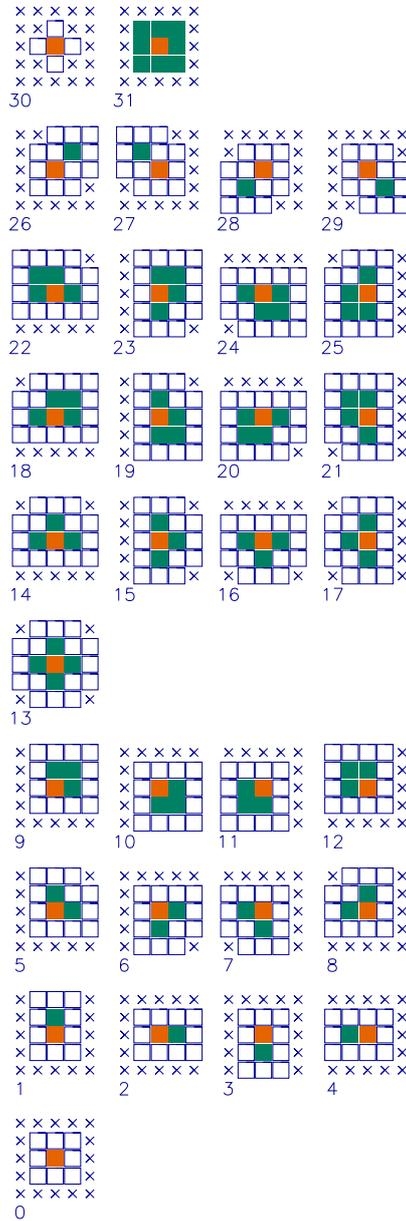
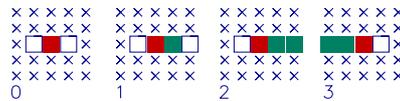

Figure 1: List of EPIC-MOS patterns (IMAGING mode)
Figure 2: List of EPIC-MOS patterns (TIMING mode)
analysis (Fig. 1) as on-board, with the difference that it is performed with the EDU threshold set at the EMDH lower threshold (everything below that was lost) and the energies  $E_3$  and  $E_4$  cannot be recovered.
In Timing mode this pattern analysis is used to reject events classified as singles or bipixels by the 1-D pattern analysis on board (Fig. 2), but which are actually part of a large track from a cosmic-ray in the framestore area. A 2-D pattern analysis, similar to that in Imaging mode (Fig. 1), is run locally around all events with `PATTERN` 0 or 1 and the event is accepted only if it would have passed the Imaging pattern analysis, with any `PATTERN` less than 30. Otherwise it is flagged as `COSMIC_RAY`. No such cosmic-ray rejection is performed if `analysepatterns` is set to False. This may not be applied in Compressed Timing mode because most events do not have a valid `RAWX` and `PATTERN` in that mode.
If Timing mode was configured on-board with `EDUMODE=3` and Imaging patterns (non-standard), then no additional pattern analysis is carried out within `emevents`. Instead the `PATTERN` values are converted to Timing patterns (Fig. 2) (between 0 and 3), and all events with vertical extension are flagged as `CLOSE_TO_BRIGHTPIX`. Those are true events, but their energy is wrong because it was added to that of another event.
- `BINODAL`. If the CCD was read through both nodes (mode `PRI PART W6 IMAGING` only), X-rays interacting close to the median column of the CCD have their charge cloud split over both nodes. `BINODAL` recognizes as only one event those which have been detected on both sides, using the same patterns as on-board (Fig. 1). This means also rejecting events which become larger than the accepted patterns. Only events with their maximum on this side of the border are kept in the list (*i.e.* the event list remains formally associated to one node). If the frame for the other node is flagged as bad, then its events should not be merged. Instead events immediately next to the other half of the CCD should be flagged as `CLOSE_TO_CCD_BORDER`.
- `DIAGO`. Diagonal patterns (26 – 29 on Fig. 1) are mostly due to two close-by single events. `DIAGO` forms two events out of one in that case. Both events are flagged with `DIAGONAL` to distinguish them from true single events. The second event is created only if its charge (*i.e.*  $E_2$ ) is above the EMDH lower threshold. This operation does not respect the order of increasing `RAWY` within a frame. This routine is not applicable in `TIMING` mode.
- `CUT_GTI`. All events whose frames were flagged for rejection by `emframes` (flag above 64) are flagged for rejection with `IN_BAD_FRAME`. Events whose frames were flagged below 64 by `emframes` are flagged with `IN_SPOILED_FRAME`. “cosmic-ray” events (patterns 30 and 31 in Fig. 1, read from `CRPATi` keywords) are flagged with `COSMIC_RAY`. `CUT_GTI` propagates the `FRMTIME` and `CRPATi` keywords.
Figure 1 for Imaging mode should be interpreted as follows:
Figure 2 for Timing mode should be interpreted in the same way as in Imaging mode, with the difference that the place where maximum charge occurs is ignored. There are only crosses in the rows above and below that of the event. This means that the Timing pattern analysis is purely 1-D (it is insensitive to other rows), because each Timing 'row' is actually the sum of 100 true rows, so the rows are not physically related. Because there is no test for maximum charge, all doubles appear as PATTERN=1, whether leading or trailing.